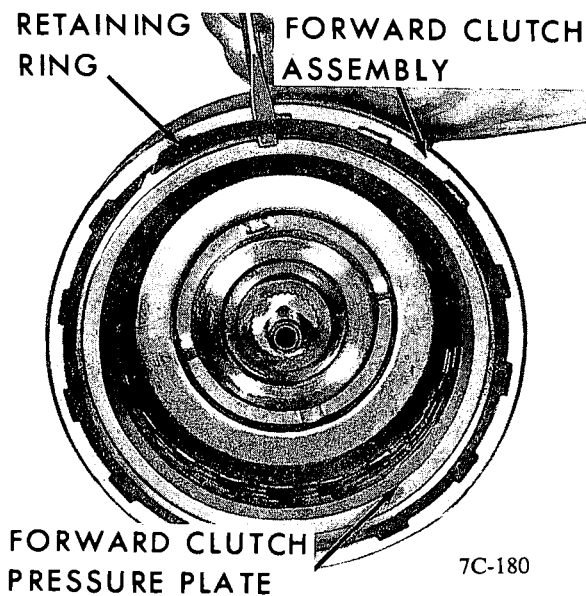

Figure 7C-113
2. Remove forward clutch housing faced plates, steel plates, and cushion spring. See Figure 7C-114.